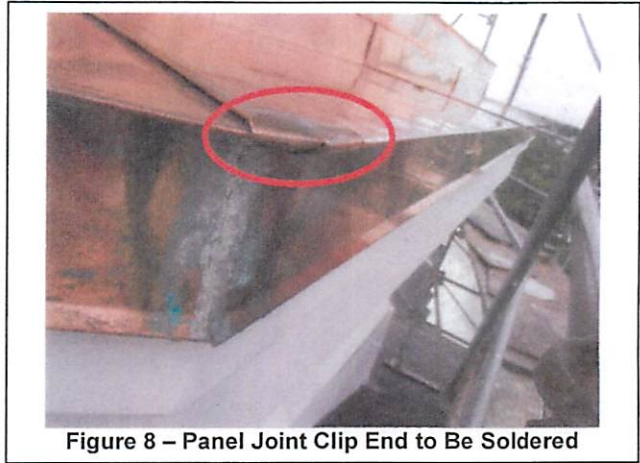

Figure 8 – Panel Joint Clip End to Be Soldered
- 13 - The edge corner point/joint seams at the (8) angled panel joint covers at upper and lower ledges to be soldered. **Figure 8**